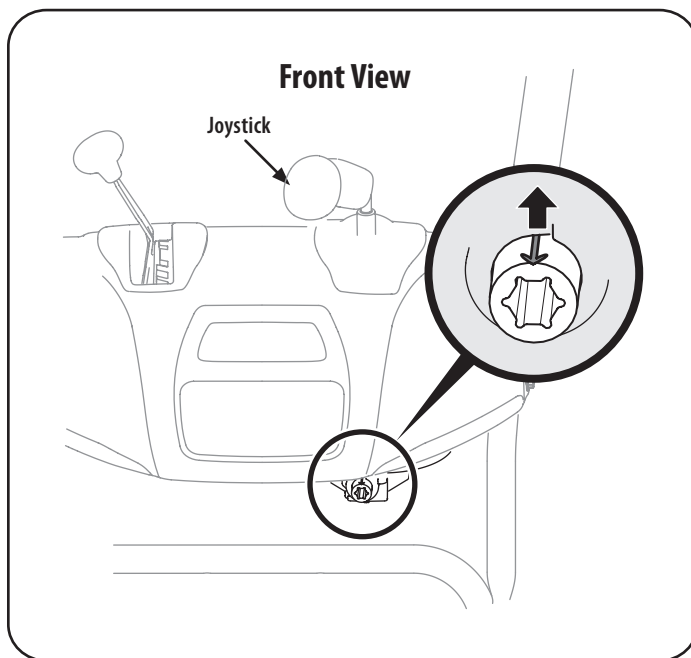

Figure 8
**NOTE:** The joystick will be angled slightly to the right. See Figure 7 & Figure 8.